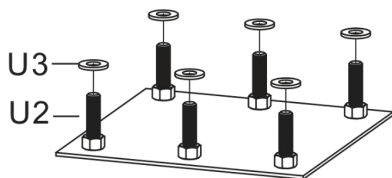

FIGURE 1A
- Slide a 18mm Thick Washer (U3) over each of the J-Bolts (U2) as shown in FIGURE 1A